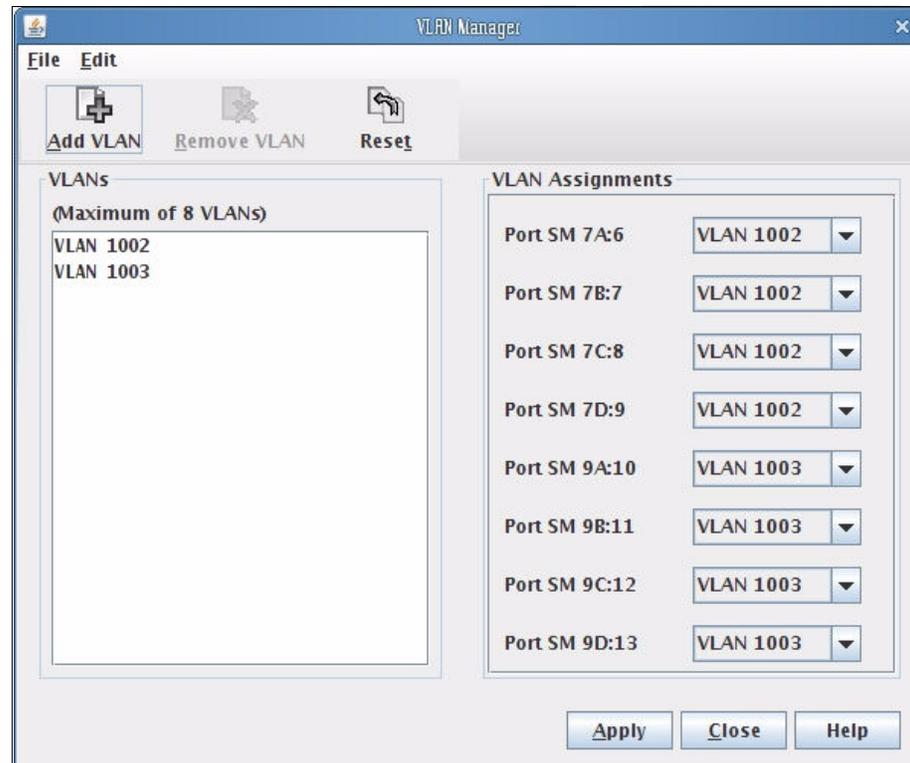

Figure 6-24 Virtual Fabric Extension Module VLAN Manager
3. In the VLAN Manager window (Figure 6-24):